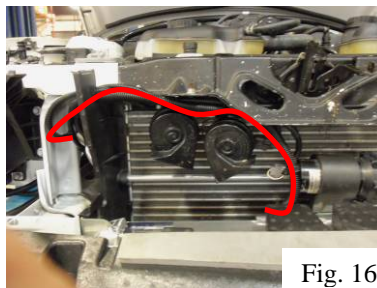

Fig. 16
35) The remainder of the harness should be routed from the relays, through the radiator support opening, and up along the top of the radiator support to the pump (Fig. 16).